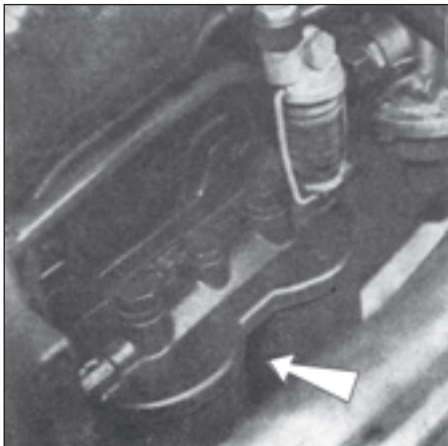

Fig. 173
39. Replace the filter elements of the fine fuel filter (Fig. 173).